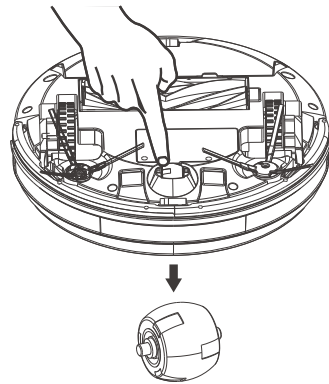

Figure 2
- Remove the front wheel with a screwdriver. Remove hair in the wheel cavity and axle twice a week. (Figure 2)